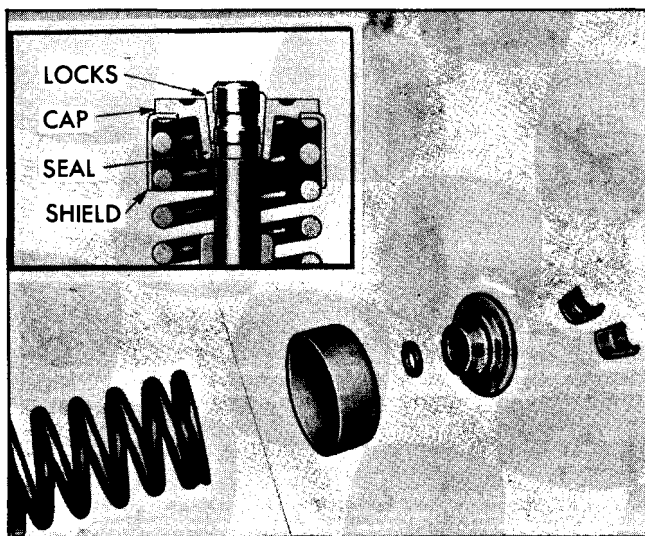

Fig. 6-35 Upper Valve Train Parts
3. Using tool J-22891, compress the valve springs and remove valve locks. Remove spring caps, spring seats, oil seals, springs and spring dampers (Fig. 6-35).
- Starting with No. 1 cylinder, place the exhaust valve in the port and place the valve spring and cap in position. Place spring and rotator on exhaust valves. Then using suitable spring compressor, compress the spring and install the oil seal and valve locks. See that the seal is flat and not twisted in the valve stem groove and that the seat locks properly in the valve stem groove (Fig. 6-35).